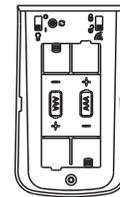

Figure 19
- Remove the battery cover from the remote control (G). Install 2 AAA batteries (N). Replace the battery cover. (Figure 19)